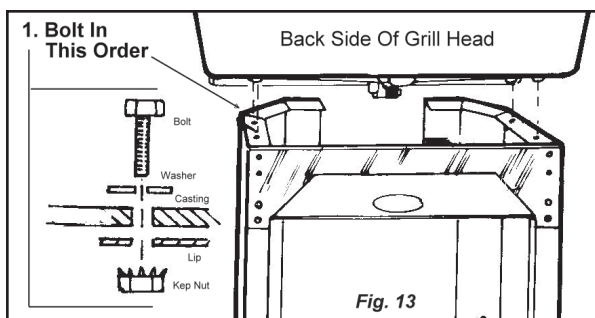

Fig. 13
Step 3: Connect the Grill Head Bottom to Stainless Steel Column (Fig. 13)